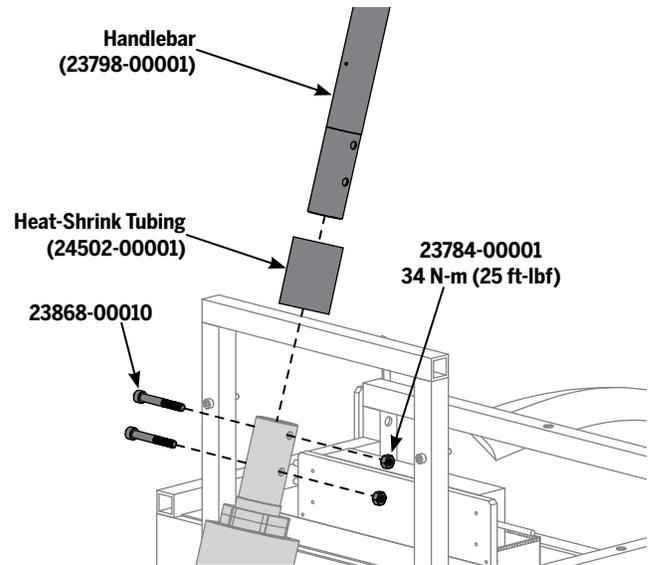

Figure 135: Handlebar
7. Using a 6 mm hex wrench and a 13 mm socket wrench, remove the two fasteners as shown in Figure 135.
5. Using a 6 mm hex wrench and a 13 mm socket wrench, install the fasteners as shown in **Figure 135**. Torque to **34 N-m (25 ft-lbf)**.